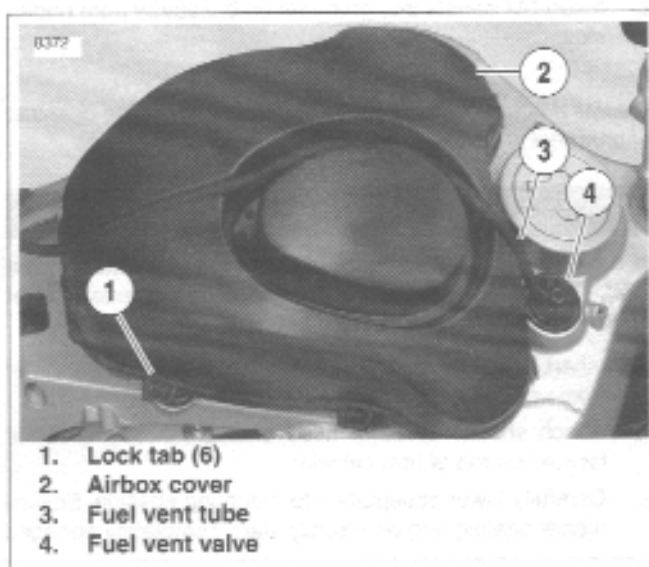
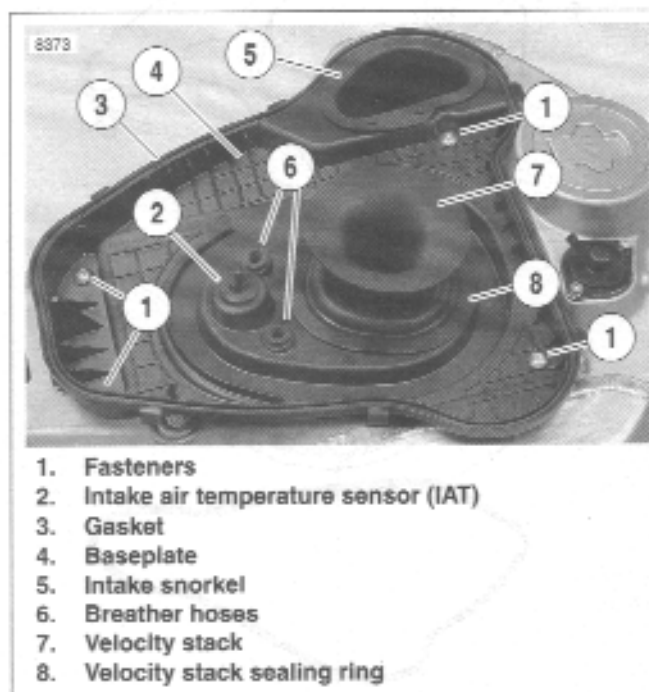

Figure 4-108. Airbox Cover
Figure 4-109. baseplate
2. See Figure 4-108. Remove fuel vent tube (3) from fuel vapor valve (4) and groove on top of airbox cover (2).
3. Unlatch six lock tabs (1) and remove airbox cover from baseplate.
5. See Figure 4-109. Remove air cleaner baseplate.
- a. Remove four fasteners (1) and raise baseplate (4).
- d. Remove IAT sensor (2) from grommet on bottom of baseplate.
- e. Lift baseplate off of frame, carefully disengaging baseplate from rubber sealing ring (8) on velocity stack (7).